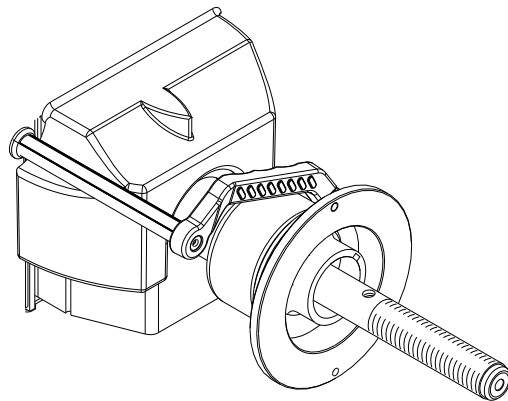

Figure 43 - Extension Resting on Bell Collar
8. Gently pull the SAPE out and rest the arm of the SAPE gauge on the inner part of the bell housing as shown in Figure 43. A tone will sound and the display will change to "**H**" "**POS**".